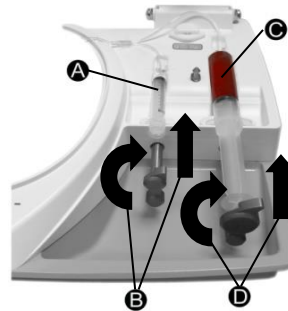

Figure 7. Attach tubing, load syringes, and engage syringe plunger drivers.
13. Remove the luer connector cap from the end of the shorter length of chamber tubing and attach syringe 1 (10 mL syringe, see Figure 7, A).
16. Rotate and slide the plunger driver to engage the syringe 1 plunger (see Figure 7, B).
18. Remove the luer connector cap from the longer length of chamber tubing and attach syringe 2 (see Figure 7, C).
21. Rotate and slide the plunger driver to engage the syringe 2 plunger (see Figure 7, D).